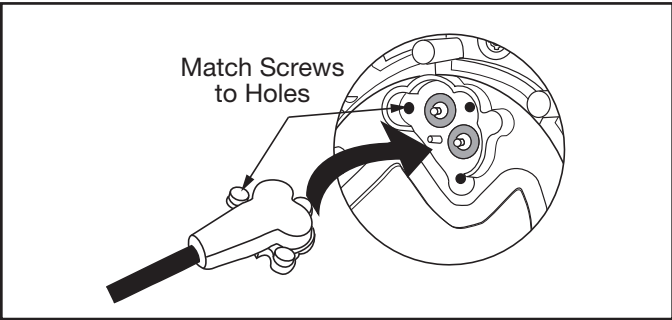

Figure 2. Plug and Socket Alignment
4. Align the plug with the socket on the light and use the three screws (from kit P/N 20350) to attach the plug securely to the light. Tighten these screws firmly by hand only; do not use a power tool. See Figure 2.
NOTE: Plug and socket can only be engaged in one position as depicted. Before applying any force to the plug and socket, check both parts are aligned as shown in Figure 2.